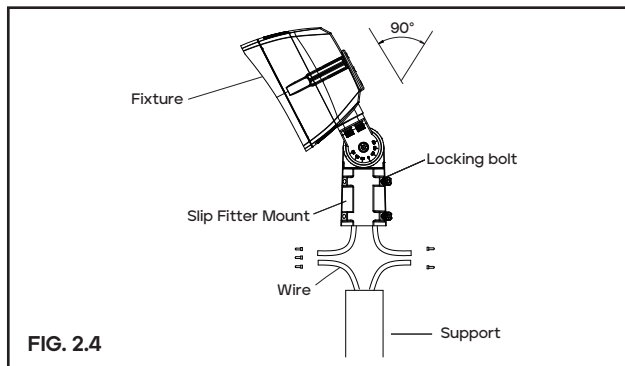

FIG. 2.4
Step 3: Loosen screws; Adjust fixture angles as per actual demands and tighten screws later; Angles of the fixture is adjustable (pass the bracket through mounting surface, fix it with screws, then connect the wires as per proper wiring requirements.) (figure 2.4)